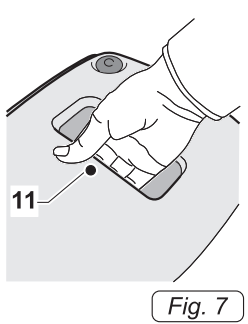

Fig. 7
- To lift it up, use the handle (11 Fig.7) on the top of the cover. Starting up the appliance